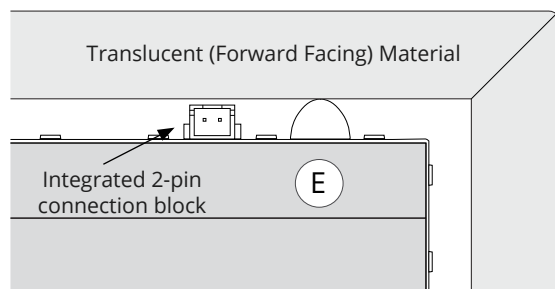
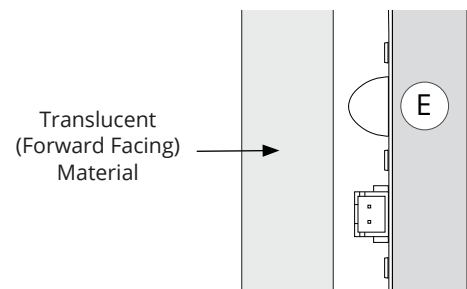

Figure 4
Figure 5
Domed spacing bumpers (E): The domed spacing bumpers (E) included with each Light Sheet have been engineered to bear the weight of translucent materials in horizontal applications and act as a safeguard in vertical applications so that the forward facing material does not harm the 2-pin connection blocks nor the LEDs. Evo-Lite recommends using eight bumpers per Light Sheet (approximately six per square foot), spacing them evenly to distribute the weight of the forward facing material (see Figure 4) and to add a level of protection in vertical applications when the forward facing material will be positioned near the Light Sheet (see Figure 5). When an application must bear more than 100 pounds per square foot (488 kg per square meter) of weight and/or bears live load, contact Evo-Lite for best practices.